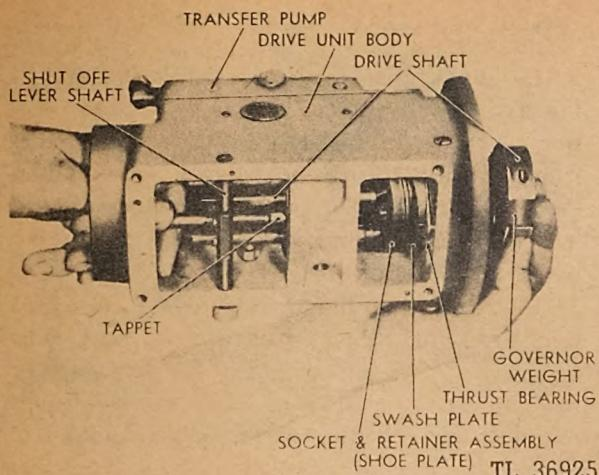

Fig. 273. Checking Tappet Fit Into Shoe Plate
(5) To install the hydraulic unit to the pump, remove one of the tappets which operate the plungers of the hydraulic unit. Look through the bore from which the tappet was removed and make sure the spherical end of the tappet, when replaced, will enter the cupped shoe of the shoe plate assembly. (See Figure 273.) However, if the hydraulic unit is replaced and the pump operated without the tappets properly entered in the cupped shoes, the tappets, shoe plate and other parts of the pump will be ruined. Additional warning of the error is given before any damage is done, as the hydraulic unit retaining ring nut will not screw into its normal location unless the tappets are properly entered.
(6) Make sure the splined bore of the rotor driving member is properly in place on the splined end of the drive shaft in the body of the pump. This will enter only one way (which is the right way).
- (3) The pump drive shaft can be removed from the unit by first removing the tappets, rotor push rod, and the cotter pin which retains the swash plate pin. (See Figures 273 and 282.) Be careful not to disturb the location of the timing pointer. Rotate the driver shaft one-half turn until the swash plate pin lines up with and is perpendicular to the Welch plug assembled in the under side of the drive unit body. Then, with a punch, drive the pin down